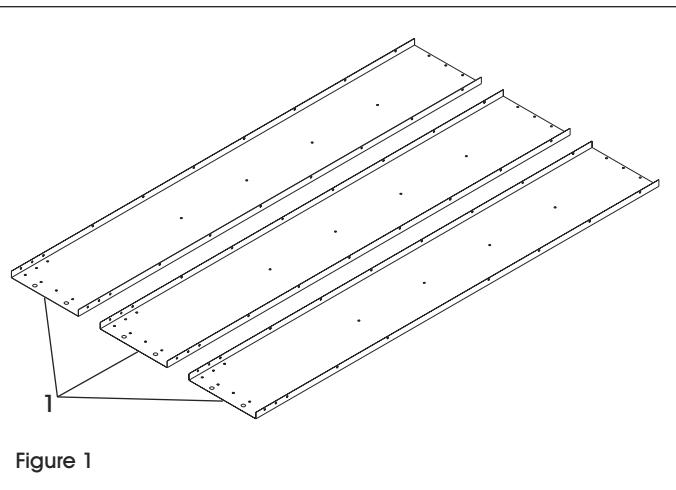

Figure 1
1. Place back panels (1) on a protected flat surface so that the flanges face upward. (See Figure 1)